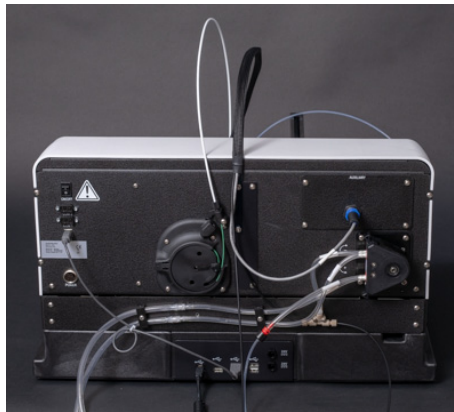

Figure 5-25 Back of the AutoSampler
1. Remove the o-ring under the capillary base, then sonicate the capillary in a methanol:water (50:50) mixture for 30 minutes (Figure 5-25).